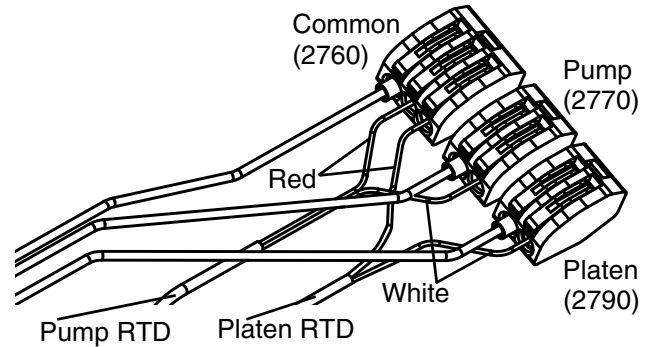

FIG. 8: Connecting the Harness Wires
6. Connect the leads from both RTDs as shown in Figure 8.